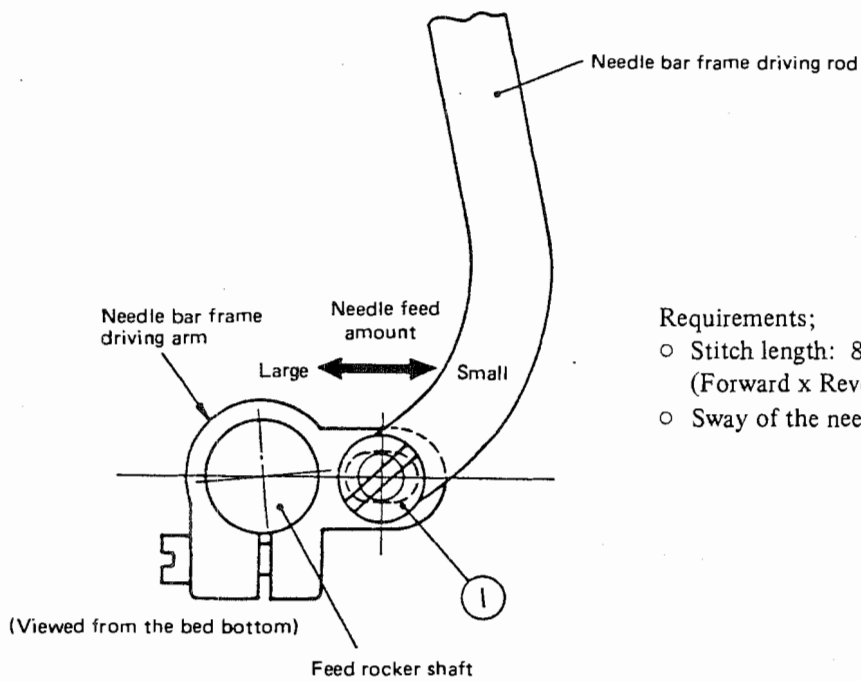

Fig. 25
<p>1. Set the stitch dial to the maximum.</p> <p>2. Loosen screw ① shown in Fig. 25, and move the needle bar frame driving rod to make adjustment.</p> <p>3. Tighten screw ①, and turn the handwheel by hand to check the sway of the needles. Position the needle bar frame driving rod so that the needle sway is minimized. Then fix the rod to the needle bar frame driving arm.</p> <p>(Note) 1) After this adjustment, the position of the needle center with respect to the needle feed slots must be readjusted.</p> <p>2) The specified distance (14.2 (0.559") ± 0.1 (0.04")) mm between the presser bar and needle bar is also disturbed in making the above adjustment. Readjust the distance.</p>	<ul style="list-style-type: none"> ○ Needle breaking may occur. ○ Stitch skipping may occur.